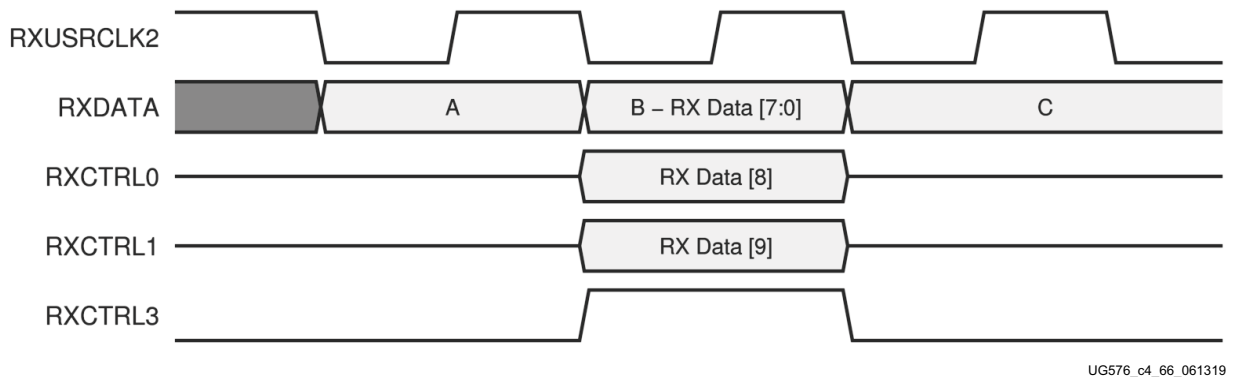

Figure 4-33: RX Data with Out-of-Table Error
Figure 4-33 shows a waveform at the RX data interface when the decoder receives good data (A), data with an invalid character (B), and good data again (C). When an error occurs during (B), RXCTRL0 represent non-decoded data bit [8] and RXCTRL1 represent the non-decoded data bit [9], where the RXDATA represents the non-decoded data bits [7:0].